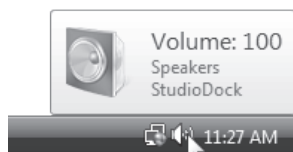

Figure 6
3. The StudioDock becomes the Default Device after you plug it in and defaults to maximum volume. Double-check this by hovering over the speaker icon in the bottom right hand corner of the screen. It should show Volume:100 and "StudioDock" (figure 6).